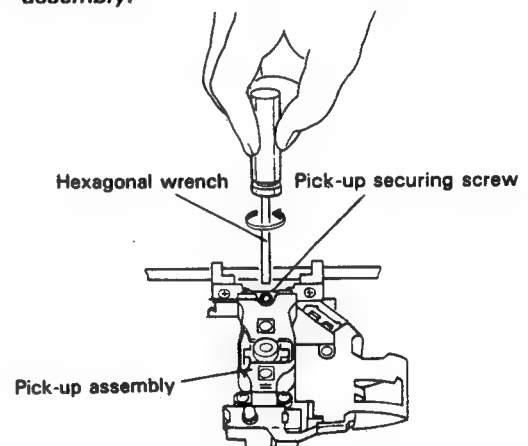

Fig.4
6. Undo the pick-up securing screw from the top of the unit, and carefully remove the pick-up assembly. (Fig.4)